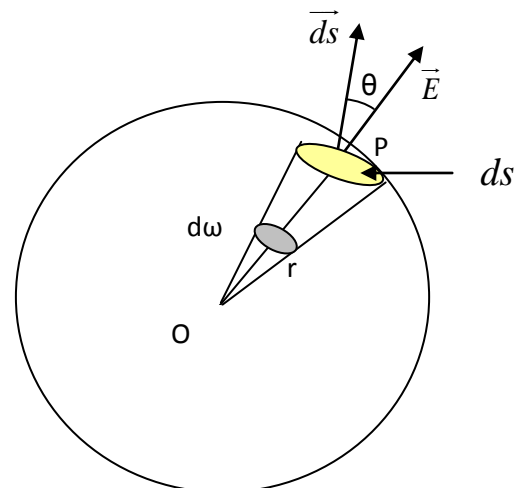

Figure 9.3
**Proof:** Consider a closed surface S having a charge q placed at a point O inside a closed surface as shown in Fig. 9.3. Take a point P on the surface and consider a small area ds around P.